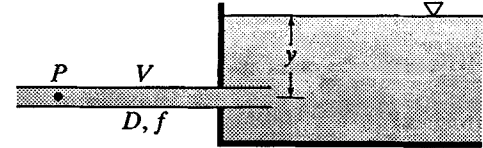

Figure X8.27.3
8.27.4 A horizontal 100-mm diameter pipe ($f = 0.027$) projects into a body of water 1 m below the surface (Fig. x8.27.3). Considering all losses, find the pressure at a point 5 m from the end of the pipe if the velocity is 4 m/s and the flow is (a) into the body of water; (b) out of the body of water.